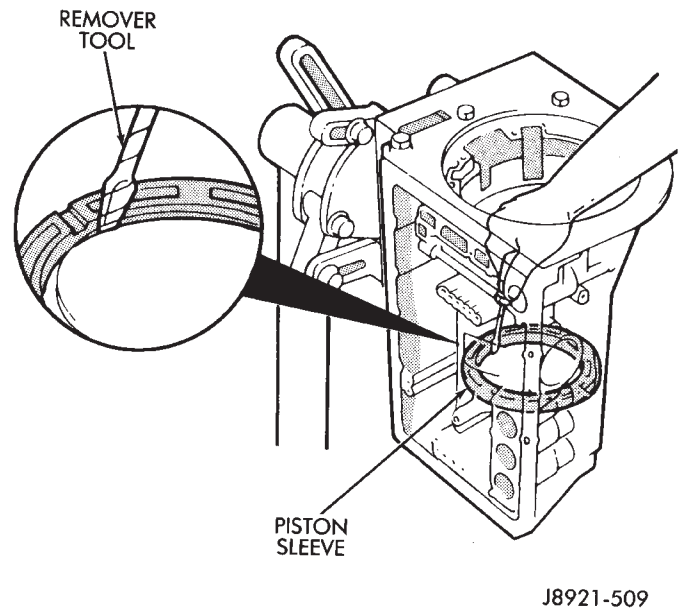

Fig. 44 Removing Second Brake Piston Sleeve
(53) Remove second brake piston sleeve (Fig. 44). Cover remover tool with tape to avoid damaging case.